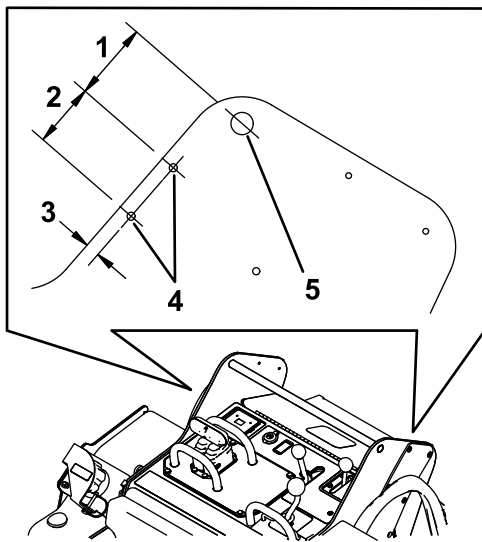

Figure 6
1. Measure in from the edges of the frame as illustrated in Figure 6 and mark the locations of the holes for mounting the shield bracket.